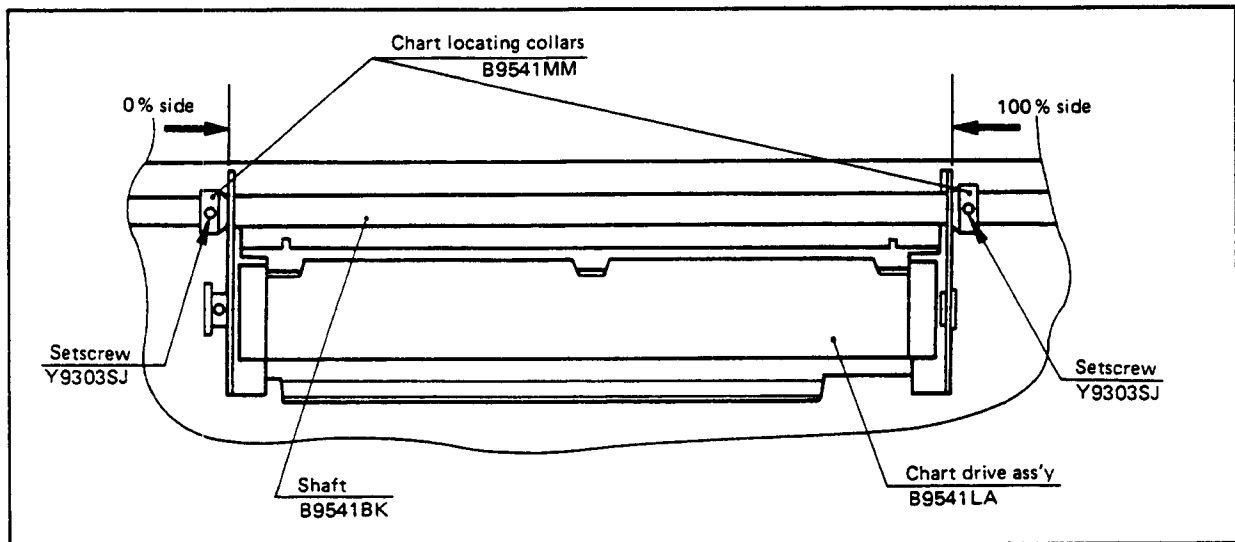

Figure 11-7.
- 1) Fit the chart locating collars (B9541MM) on the chart locating shaft (B9541BK) as shown in Figure 11-7.